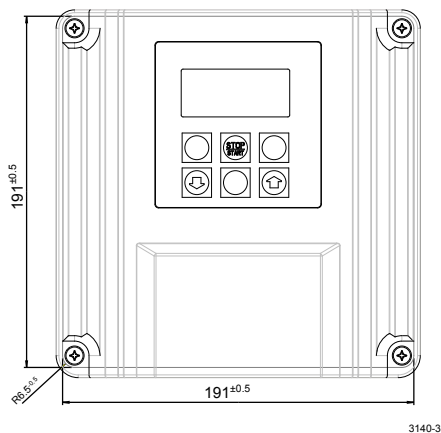

Fig. 4: Punched template, drawing number 3140-3 /not to scale
- Use the dimensions shown in Fig. 4 and mark on the control panel
1. ➤ Using the dimensions shown in Fig. 4 mark the precise position of the device on the control panel